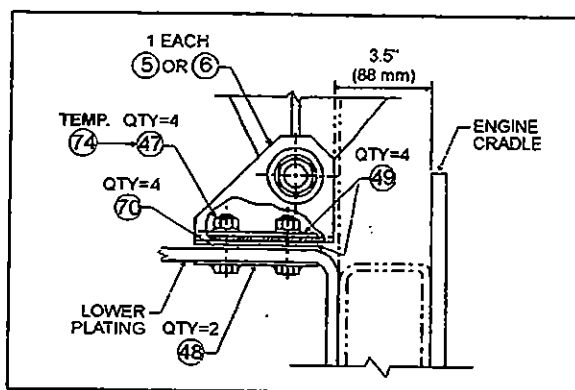

Figure 17: Angle Support
1. Install both attachment assembly plates (48, Fig. 17) through lower plating. Secure with four spring nuts (70, Fig. 17). Install one spacer (49, Fig. 17) on spring nuts at both anchoring locations.
2. Center seat assembly in the fan shroud using the horizontal displacement of the fan drive installation. Center with the slots in the floor at anchoring angle support (on some vehicles only). The vertical displacement of the fan clutch is made possible by slots at the base of the fan clutch (on some vehicles only) or by shimming with additional spacers at anchoring locations. Temporarily secure assembly with two temp. nuts (74, Fig. 17), 7/16-20, part number 50-0709 at both anchoring locations.
4. Using a universal protractor, check 3 "V" pulley's vertical angle with that of engine pulley's. If angles do not correspond, raise seat assembly by shimming with additional spacers (49, Fig. 17).
5. Recheck alignment (steps 3, 4 and 5). Replace temporary anchoring nuts (74, Fig. 17) with four nuts (47, Fig. 17), part number 50-0714. Tighten with wrench.